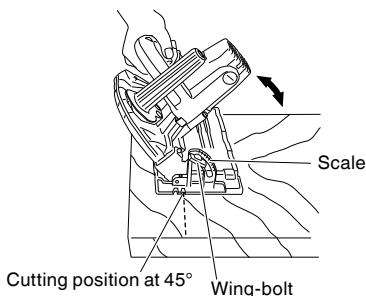

Fig. 5
By loosening the wing bolt at the scale, the saw blade can be tilted up to maximum angle of 45° against the base (Fig. 5).
The angle of inclination can also be regulated by loosening the wing bolt at the scale (Fig. 5).
- (1) Turn the base face up (**Fig. 9**) and loosen the wing-bolt (**Fig. 5**).
- (2) Apply a square to the base and the saw blade and turning the slotted set screw with a slotted-head screwdriver, shift the position of the base to produce the desired right angle.